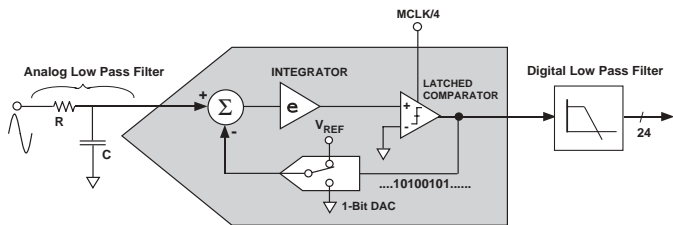

Figure 17– First Order Sigma-Delta (Σ - Δ) ADC
The analog-to-digital conversion in the ADE7753 is carried out using two second order sigma-delta ADCs. For simplicity reason, the block diagram in Figure 17 shows a first order sigma-delta ADC. The converter is made up of two parts: the sigma-delta modulator and the digital low pass filter.
Figure 17 also shows an analog low pass filter (RC) on the input to the modulator. This filter is present to prevent aliasing. Aliasing is an artifact of all sampled systems. Basically it means that frequency components in the input signal to the ADC which are higher than half the sampling rate of the ADC will appear in the sampled signal at a